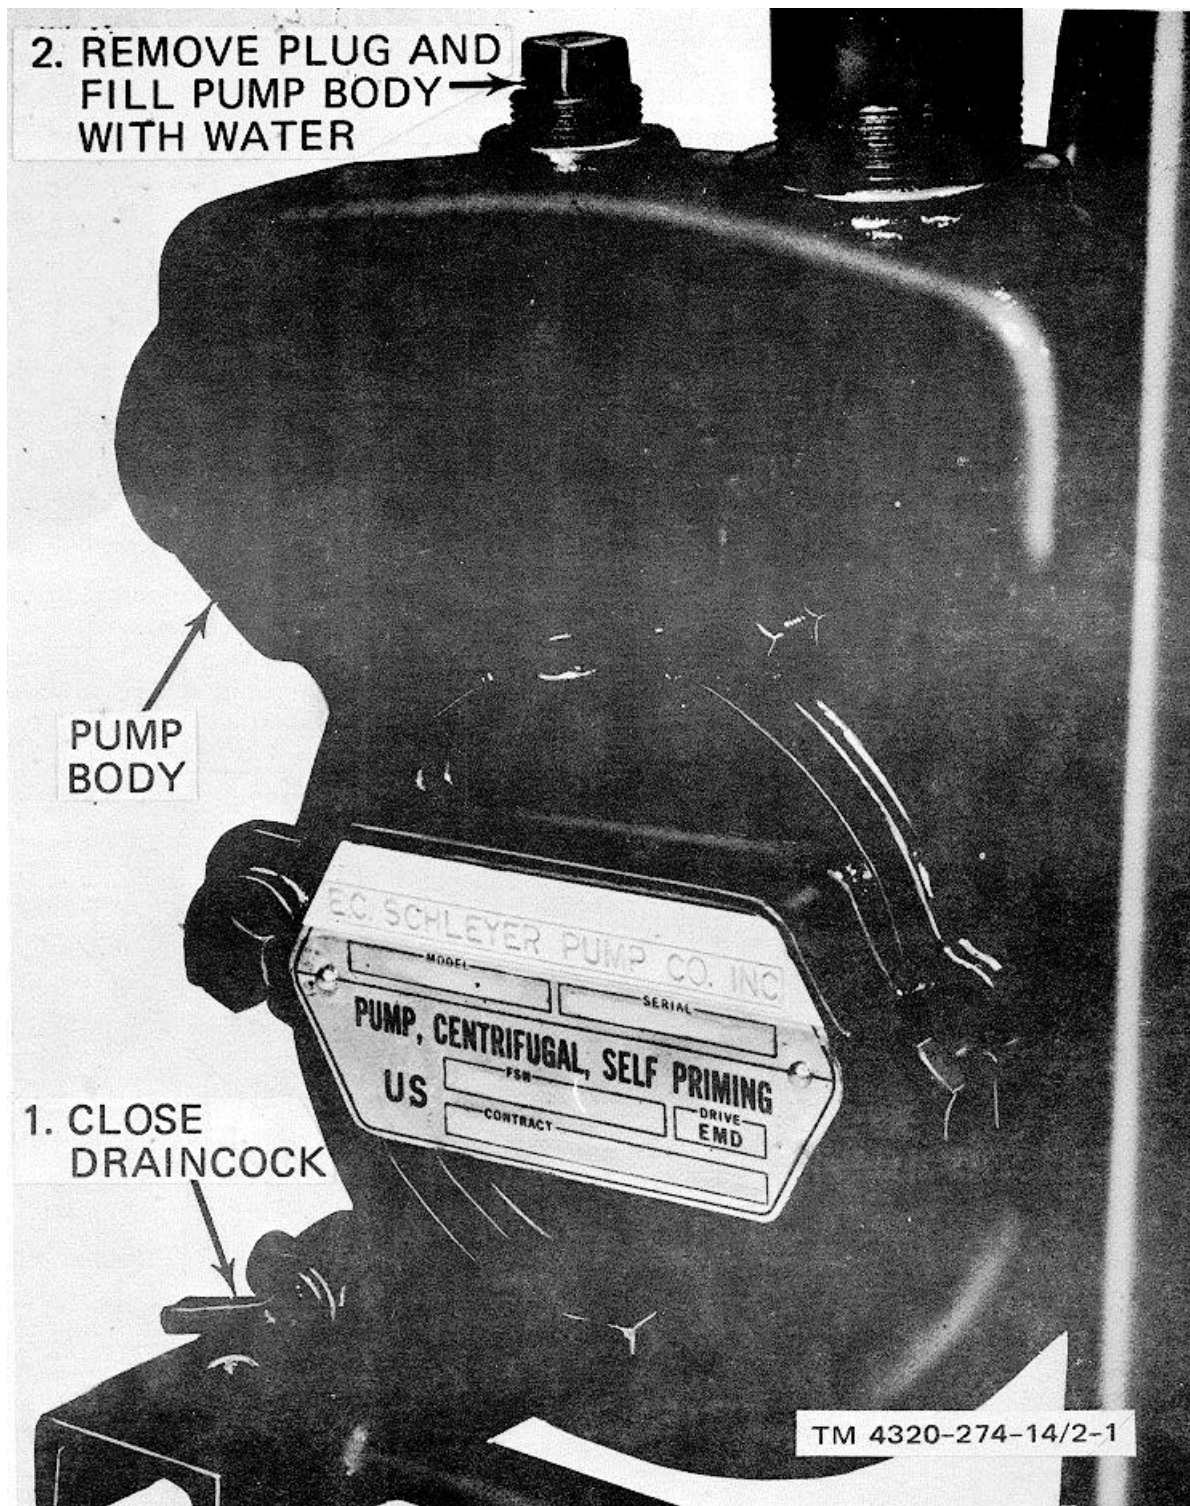

Figure 2-1. Priming instructions.
- (1)** Refer to paragraph 3-4 and perform the daily preventive services.
- (2)** Refer to figure 2-1 and prime pumping unit.